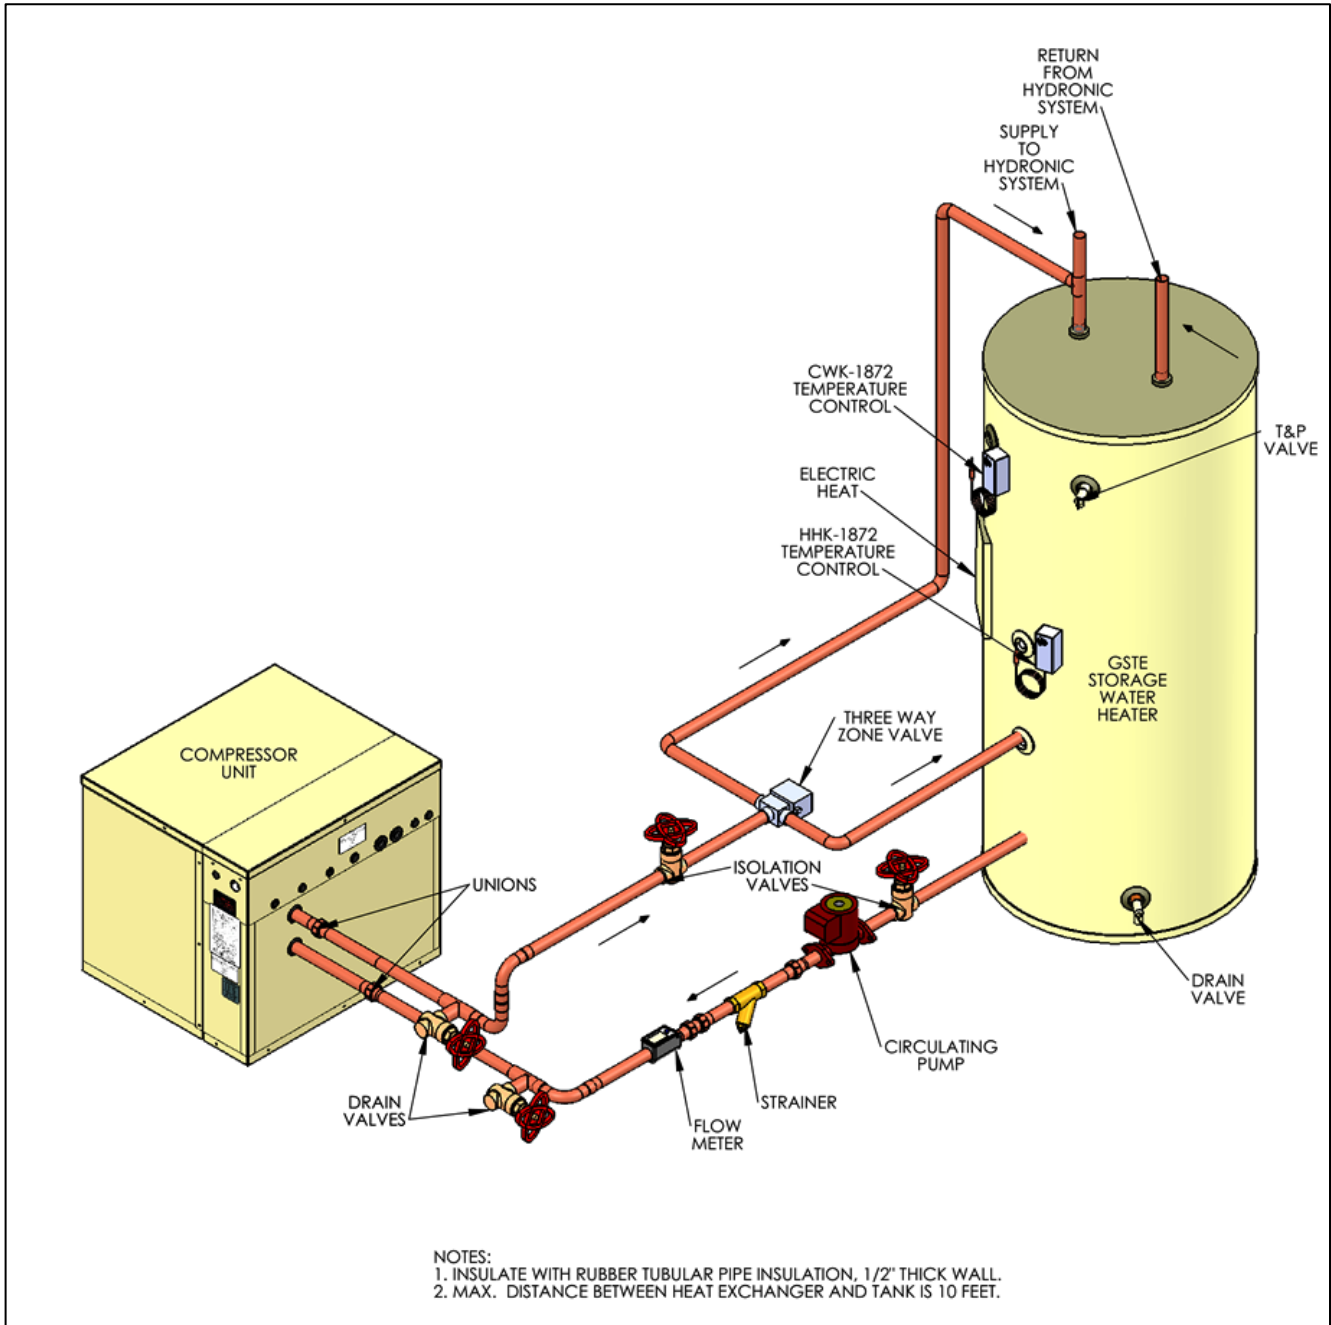

Figure 11. Typical SCW(A) Primary Hydronic Circuit Plumbing
A typical primary hydronic plumbing circuit for an SCW(A) system is illustrated in Figure 11..